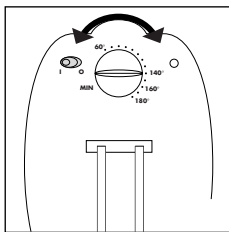

fig. 7
- Turn the thermostat knob (see Fig. 7) to the required temperature (see cooking table).